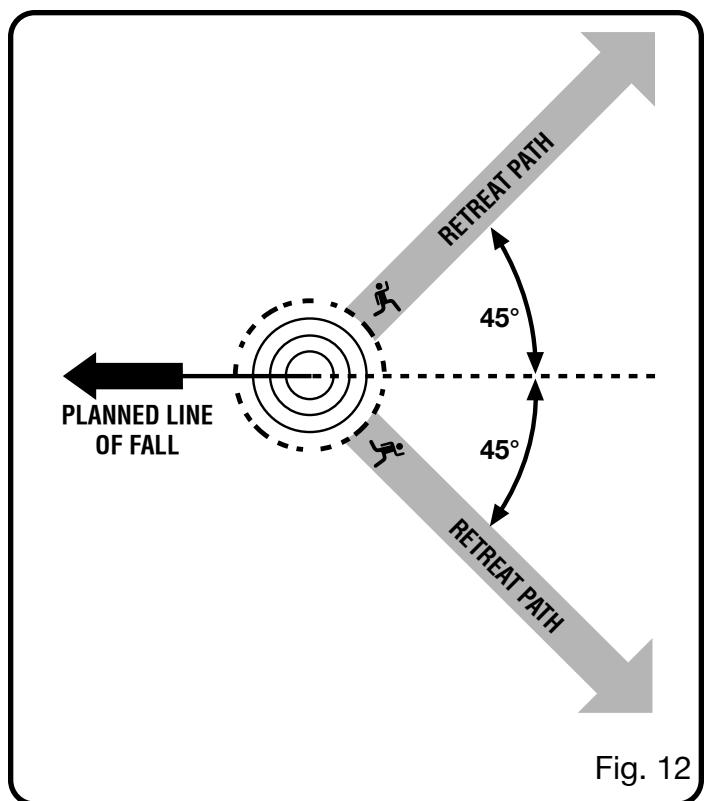

Fig. 12
See Figures 12 - 15.
- Before any cuts are started, pick your escape route (or routes in case the intended route is blocked); clear the immediate area around the tree and make sure there are no obstructions in your planned path of retreat. Clear paths of safe retreat should extend back and diagonally (45°) to the rear of the planned line of fall. When the tree begins to fall, you should retreat away from the direction of fall along a retreat path and at least 20 feet away from the trunk in case it kicks back over the stump. *See Figure 12.*